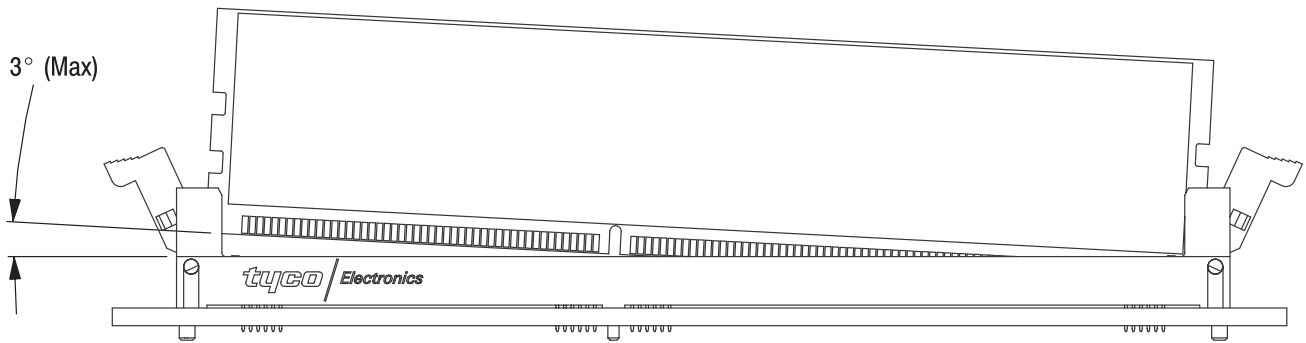

Figure 9
When mating or unmating module, care should be taken to prevent longitudinal rocking of the module with respect to the socket. Angles greater than 3° could cause damage to the housing or misregistration of the contacts and module circuit pads. Refer to Figure 9.
1. The socket extractors must be moved to the open position. See Figure 9.